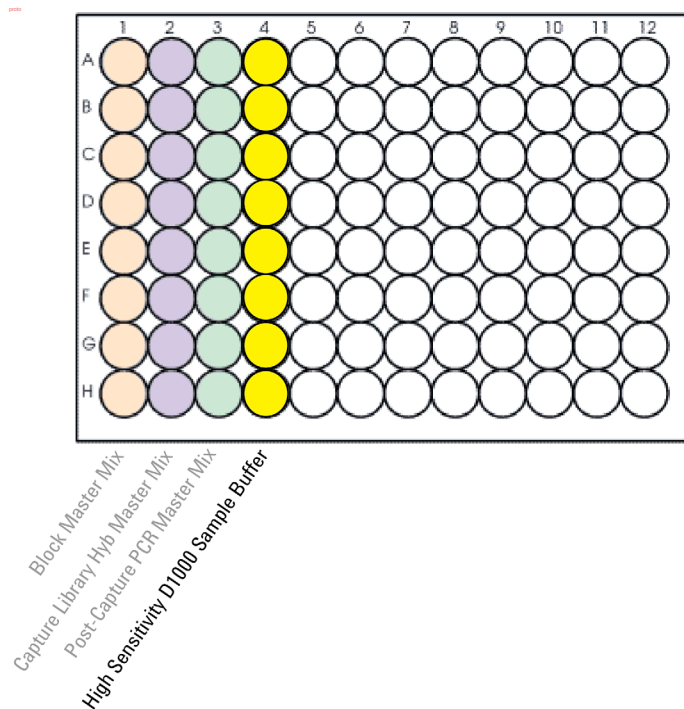

Figure 15 Configuration of the source plate for protocol **12 TS_HighSensitivity_D1000**. Columns 1–3 were used to dispense master mixes during previous protocols.
- 4 Using the same master mix source plate that was used for the **10 Post-CapPCR_XT_HS2_ILM** protocol run, prepare the Sample Buffer source plate at room temperature. Add the volume of High Sensitivity D1000 Sample Buffer indicated in Table 75 to each well of column 4 of the plate. The final configuration of the sample buffer source plate is shown in Figure 15.